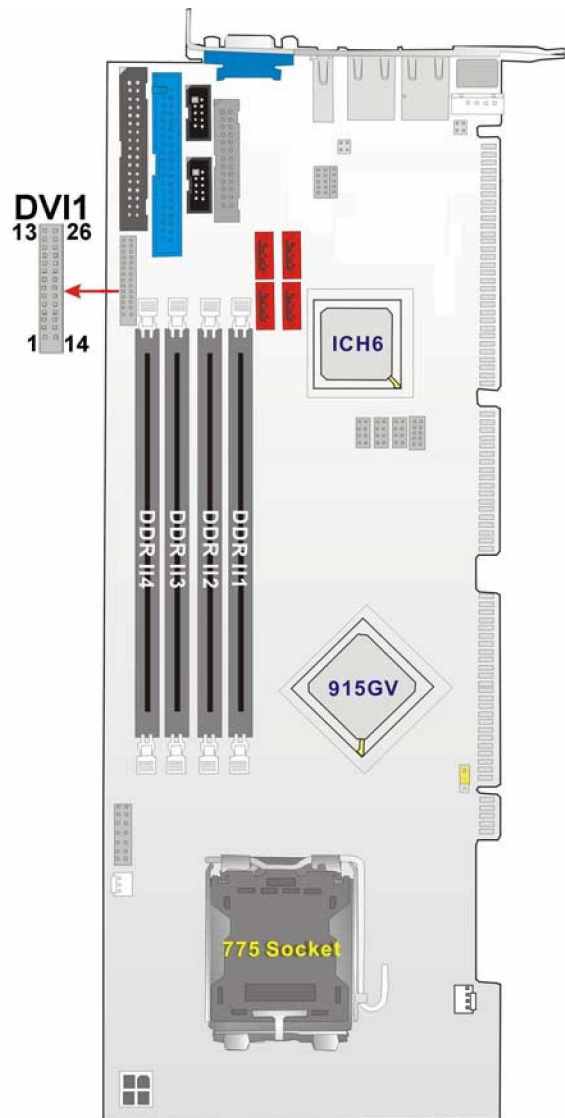

Figure 3-13: DVI1 Connector Location
- CN Location:** See Figure 3-13